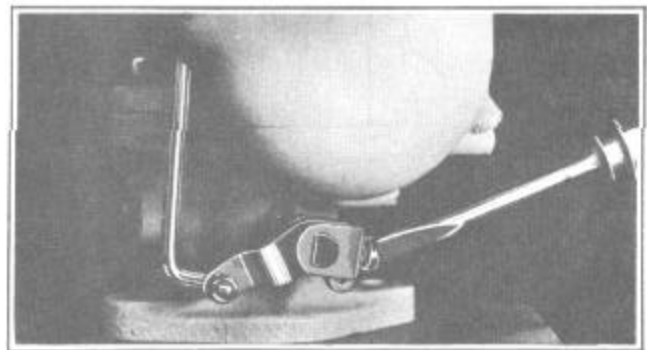

FIGURE 45
19. Install throttle shaft arm and screw assembly and throttle connector rod. Figure 45. Check throttle shaft arm for wear.